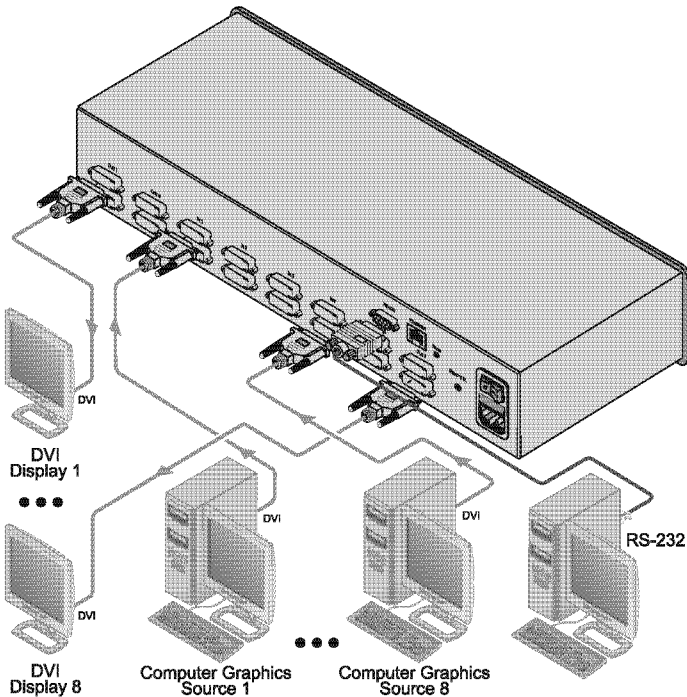

Figure 2: Connecting the VS-88DVI 8x8 DVI Matrix Switcher
To connect the **VS-88DVI**, as the example in Figure 2 illustrates, do the following¹:
4. Connect the power cord (not shown in Figure 2).